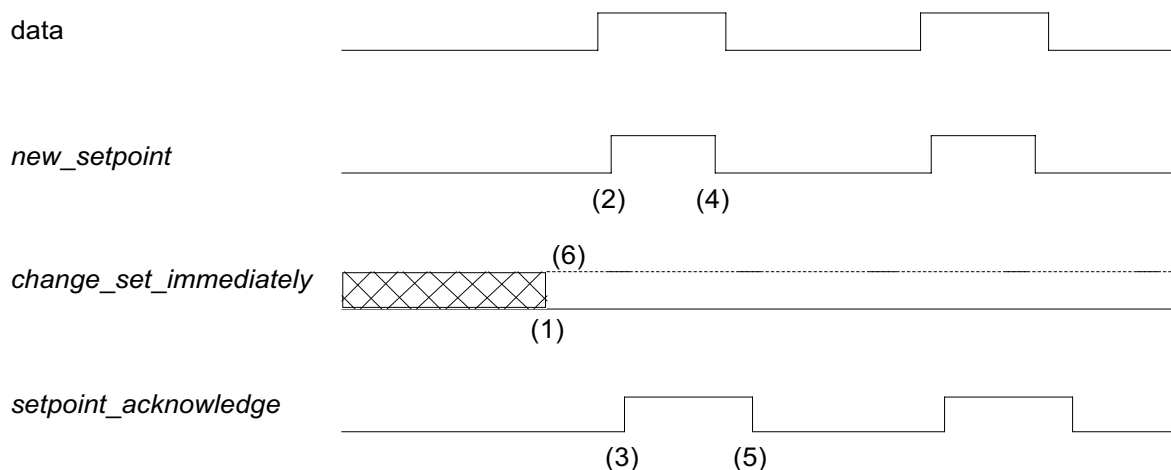
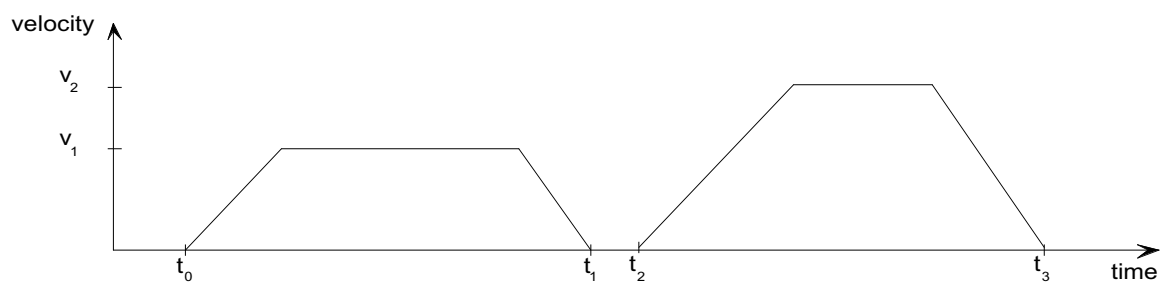
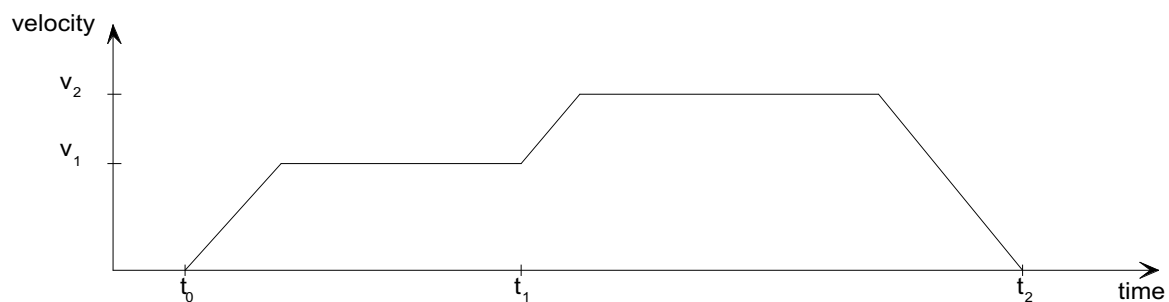

Figure 17: Set-point transmission from a host computer
Figure 18: Single set-point
Figure 19: Change set immediately
Figure 17, Figure 18 and Figure 19 show the difference between the "set of set-points" mode and the "single set-point" mode. The initial status of the bit '*change set immediately*' in the *controlword* determines which mode is used. To keep simple these examples, only trapezoidal moves are used.
If the bit '*change set immediately*' is "0" (continuously drawn line in Figure 17) a single set-point is expected by the drive (1). After data is applied to the drive, a host signals that the data is valid by changing the bit '*new set-point*' to "1" in the *controlword* (2). The drive responds with '*set-point acknowledge*' set to "1" in the *statusword* (3) after it recognized and buffered the new valid data. Now the host may release '*new set-point*' (4) and afterwards the drive signals with '*set-point acknowledge*' equal "0" its ability to accept new data again (5). In Figure 18 this mechanism results in a velocity of zero after ramping down in order to reach a *target position*  $x_1$  at  $t_1$ . After signaling to the host, that the set-point is reached like described above, the next *target position*  $x_2$  is processed at  $t_2$  and reached at  $t_3$ .
If the bit 'change set immediately' is "1" (dashed line in Figure 17) the new target position will be active immediately. In Figure 19 the drive receives the first *target position* at  $t_0$ . At the time point  $t_1$  the drive receives a second *target position*. The drive readapts the actual move to the new target position immediately.